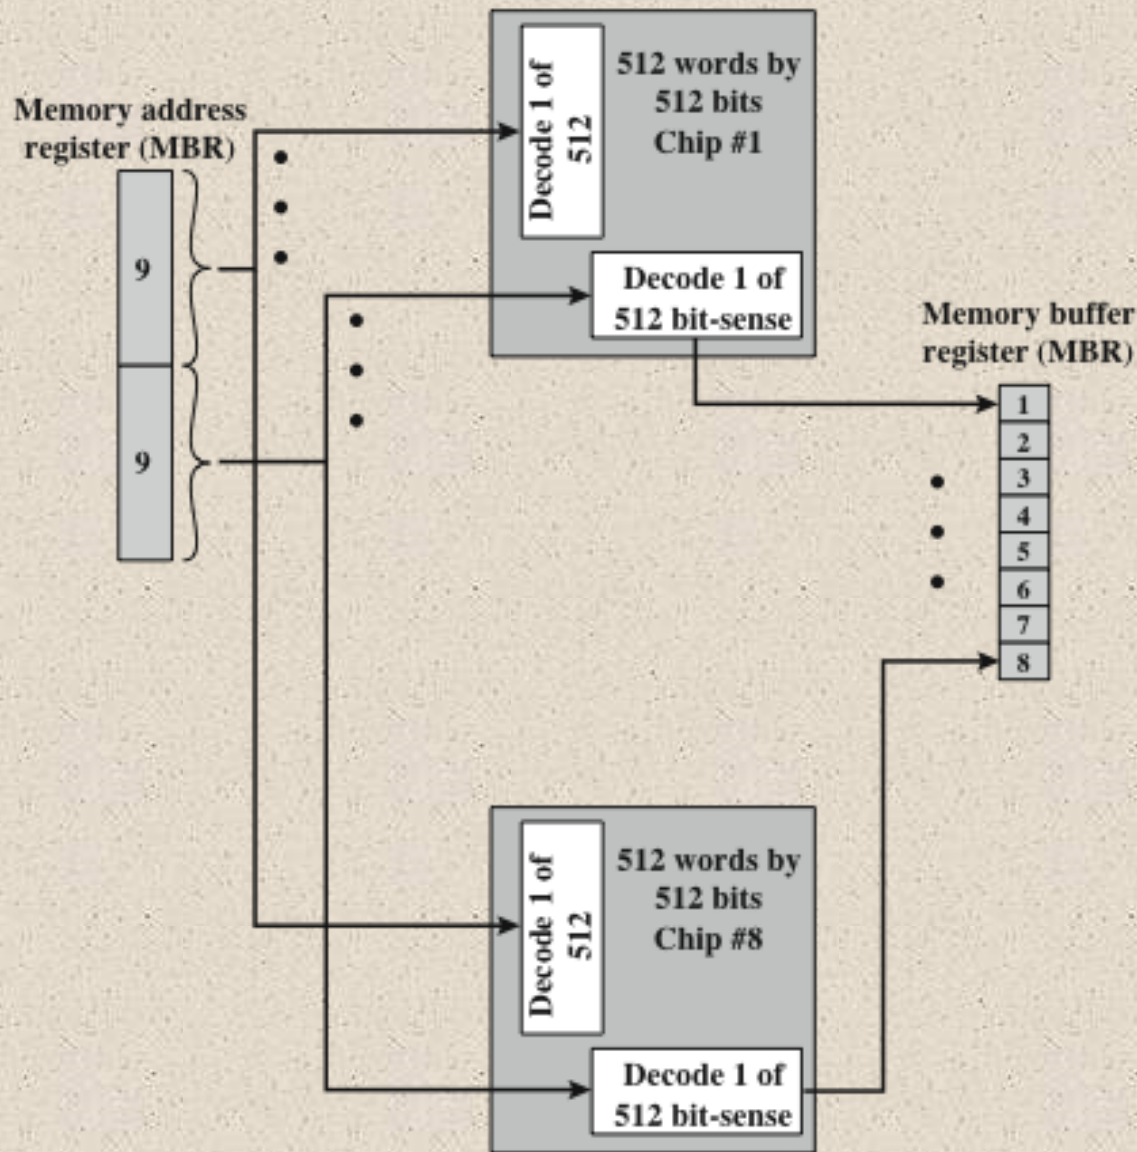

Figure 5.5 256-KByte Memory Organization
- + In this case, we have four columns of chips, each column containing 256K words arranged as in Figure 5.5.